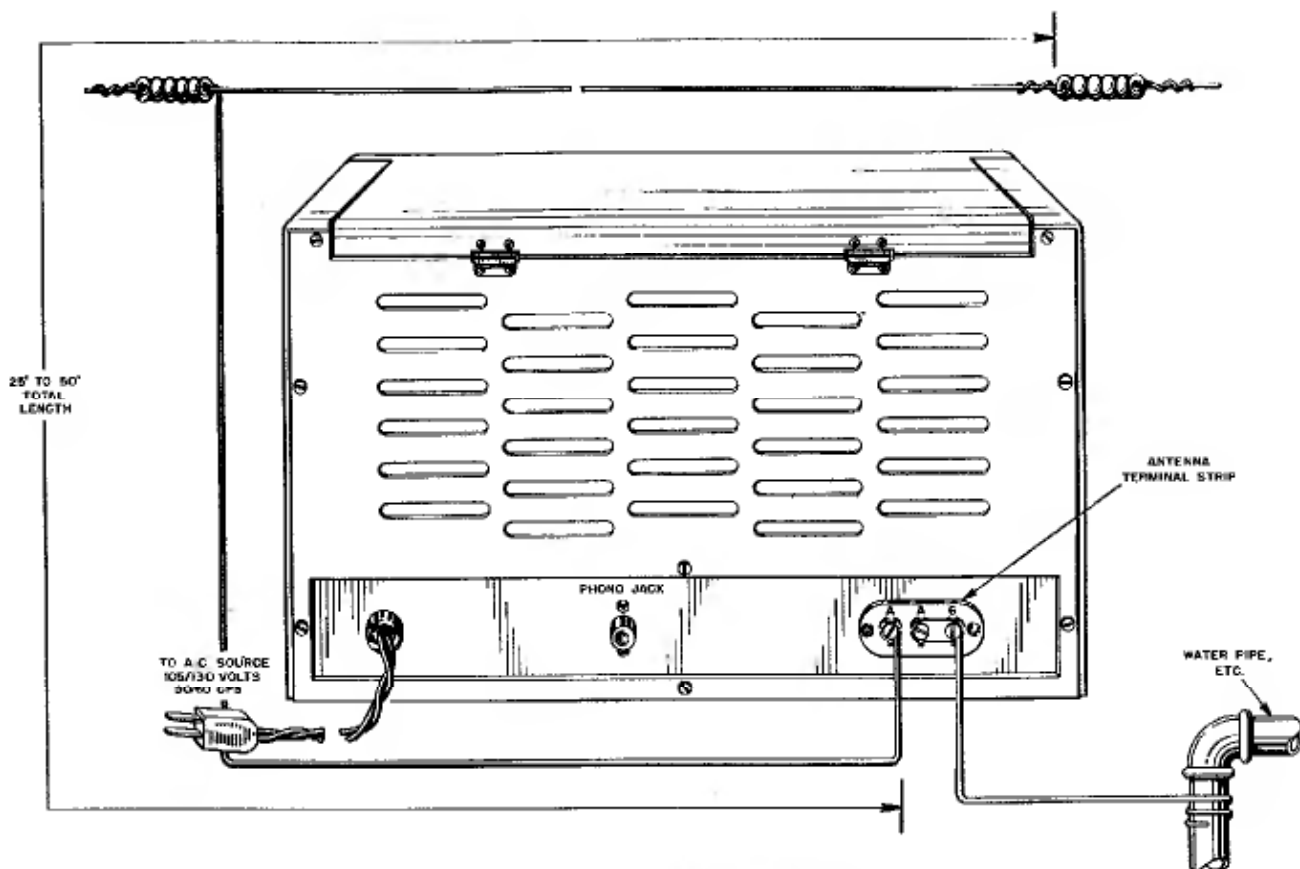

Figure 1. Typical Installation Plan
2. Referring to Figure 1, locate the antenna terminal strip at the rear of the cabinet. Connections to this terminal strip are made by loosening the screw to be used and then wrapping the wire around the screw and tightening with a screwdriver so that the wire is held securely. The method to use in connecting the antenna to the receiver is as follows:
a. Single-Wire Type—The wire is connected to the left hand A terminal on the antenna terminal strip and the other A terminal connected to the G terminal by means of the metal link provided (see Figure 1).
3. Connect a wire from a good external ground (water pipe, radiator, etc. with the paint scraped off at the point of connection) to the terminal marked G on the terminal strip. This connection is not absolutely necessary but in certain localities a considerable reduction in noise may be effected. Refer to Figure 1 for an illustration of a typical
The NC-88 has been equipped with a phono jack (see Figure 1) which will accommodate a standard phono tip plug so that a record player not equipped with an amplifier may be operated through the audio circuits of the receiver. If the record player has other than a standard phono tip plug, the correct fitting can be readily installed. The NC-88 has a